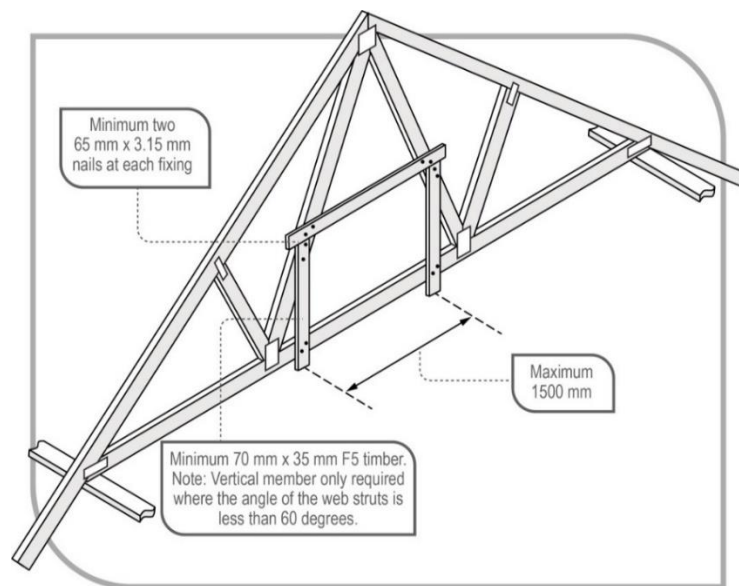

FIGURE 4 SUGGESTED METHOD OF FIXING TEMPORARY WALING PLATE.
- The waling plate should be timber of 70 mm x 35 mm F5, or equivalent, to a maximum of 1500 mm long, fixed at each end by a minimum of two 65 mm x 3.15 mm nails (see Figure 4).